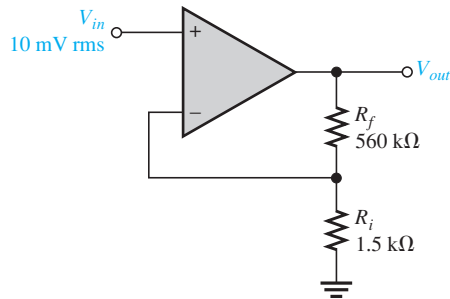

FIGURE 6-43
16. For the amplifier in Figure 6-43, determine the following: